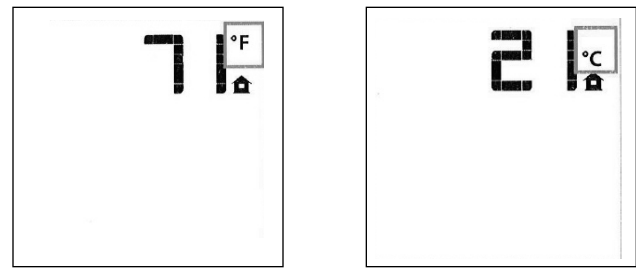

Figure 42. Room temperature readings
- With the transmitter in the OFF position, press the Thermostat Key and the Mode Key at the same time. The display screen will show the current room temperature cycling between Fahrenheit and Celsius indicators each time the keys are pressed simultaneously. See fig. 42.